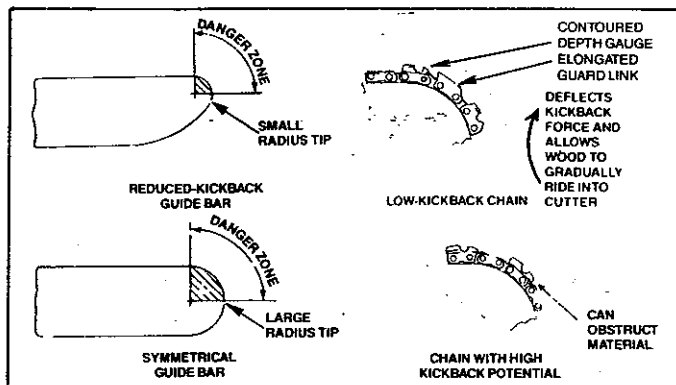

Figure 5
- **Reduced-Kickback Guide Bar**, designed with a small radius tip which reduces the size of the kickback danger zone on the bar tip. Figure 5. A Reduced Kickback Guide Bar is one which has been demonstrated to significantly reduce the number and seriousness of kickbacks when tested in accordance with the safety requirements for gasoline powered chain saws as set by the American National Standards Institute, Inc., Standard B175.1 - 1985.
- **Low-Kickback Chain**, designed with a contoured depth gauge and guard link which deflect the kickback force and allow wood to gradually ride into the cutter. Figure 5. Low Kickback Saw Chain is chain which has met the kickback performance requirements of ANSI B175.1 (Safety Requirements for Gasoline -Powered Chain Saws) when tested on a representative sample of chain saws below 3.8 cubic inch displacement specified in ANSI B175.1. (American National Standards Institute, Inc., Standard B175.1 - 1985).